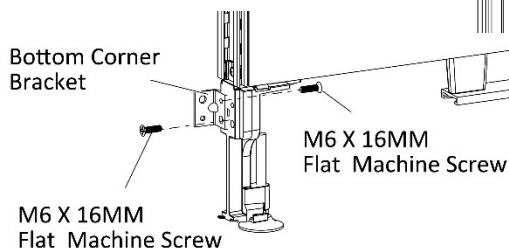

Figure 5
7. Securely fasten the bottom corner bracket to panel leg of the third panel with two M6 X 16MM Flat Machine Screws, (Figure 5).